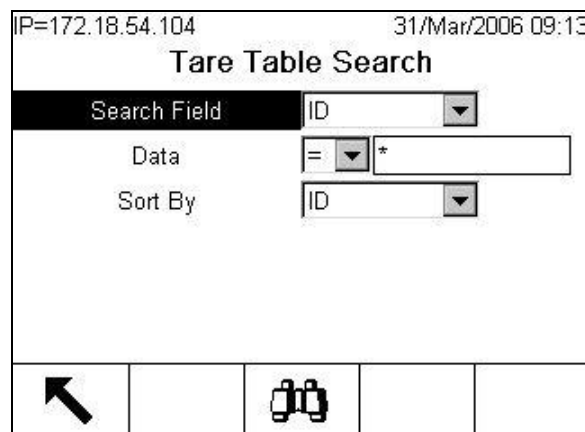

Figure C-10: Tare Table Search Screen
1. Press the TARE TABLE softkey  to display the search screen as shown in Figure C-10.